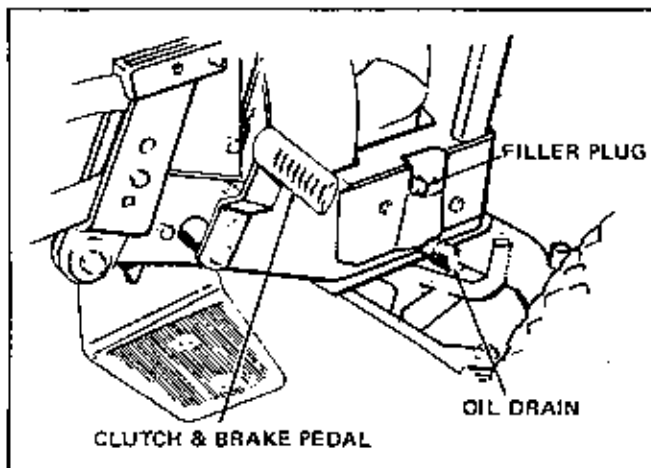

Figure 11
Service air cleaner and crankcase as recommended in Engine Service Manual. Be sure air cleaner is maintained in clean condition. Never use oil in crankcase for more than 25 hours of operation. See Figure 11. **CLEAN AIR AND CLEAN ENGINE OIL WILL GIVE LONG TROUBLE FREE OPERATION. DIRT WILL RUIN YOUR ENGINE IN A SHORT TIME.** A funnel and extension are included with the tractor for use in changing oil.
3. Depress the clutch and brake pedal as far as it will go. See Figure 11.